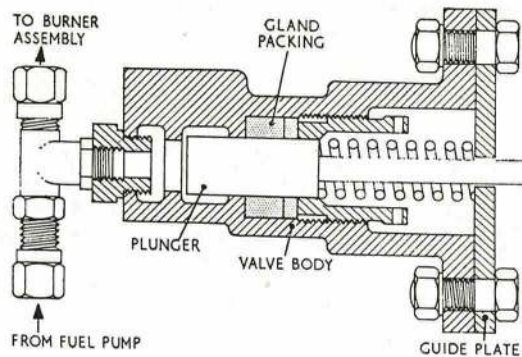

Fig. 5. BALANCER VALVE
21. **Balancer Valve.** The balancer valve (Fig. 5) is fitted to damp out the fluctuations in pressure of the fuel delivered to the pump, and to maintain an even flow of fuel to the combustion chamber. It is located in the fuel pipeline between the pump and the combustion chamber. The valve consists essentially of a spring-loaded plunger that is housed in a valve body, and guided in its movement by a guide plate bolted to a flange at one end of the body. The valve spring fits over the stem of the plunger and is located between the guide plate and a shoulder on the plunger. Leakage of fluid past the plunger is prevented by a synthetic-rubber gland packing, which is retained in position by a gland nut screwed into the valve body.